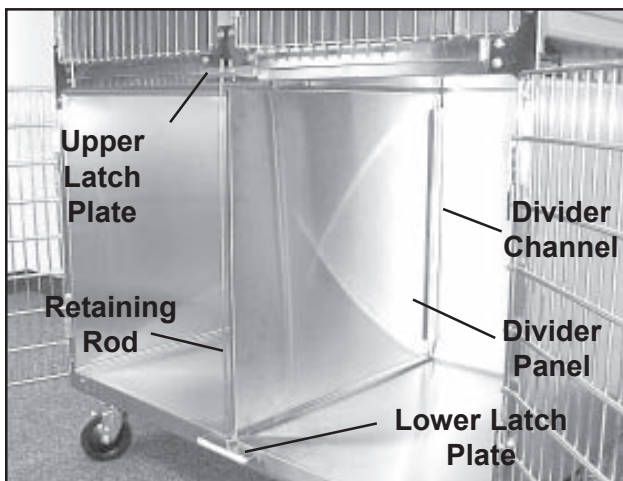
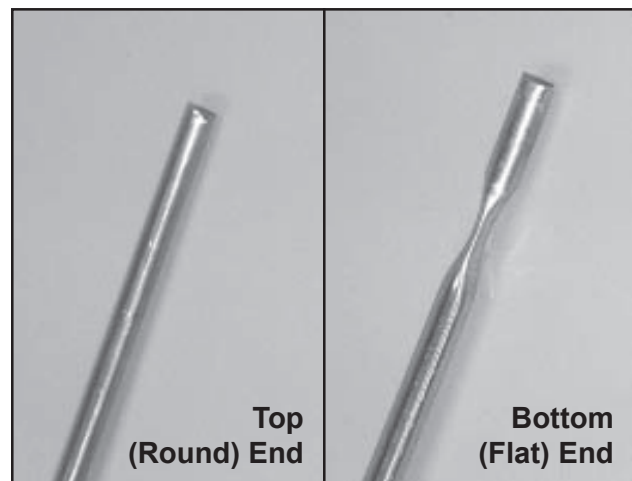

Figure 58. Removing the Divider Panel Retaining Rod
Figure 59. Divider Panel Retaining Rod
2. Lift the retaining rod up until it clears the lower latch plate, then lower the rod until the top end clears the upper latch plate (Figure 58).
5. Pass the round end of the retaining rod (Figure 59) up through the center hole in upper latch plate (Figure 58), then fit the flat end of the rod down into the lower latch plate.
2. Lift the old retaining rod up until it clears the lower latch plate, then lower the rod until the top end clears the upper latch plate (Figure 58).
3. Pass the round end of the retaining rod (Figure 59) up through the center hole in upper latch plate (Figure 58), then fit the flat end of the rod down into the lower latch plate.